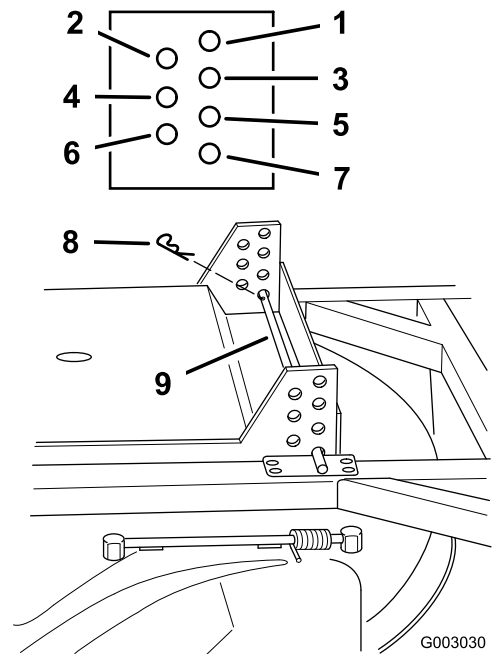

Figure 20
2. Remove the hairpin cotters and relocate the support rods in different hole locations in the brackets at each corner of the mower (Figure 20).